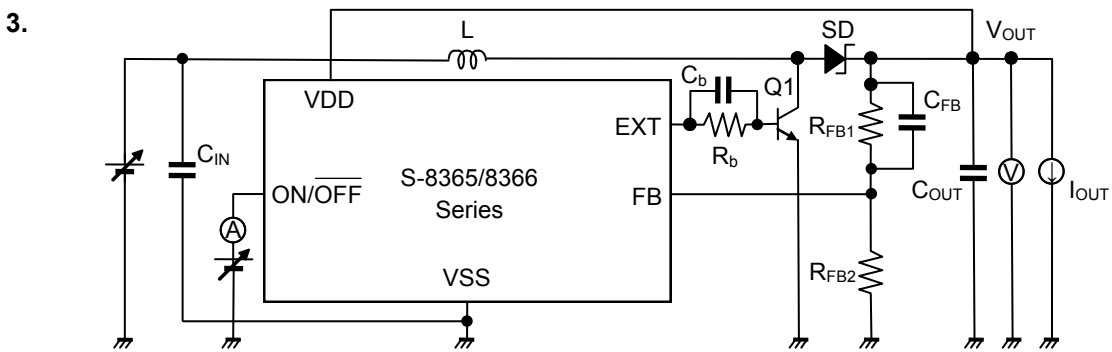

Figure 10
*2. This is the guaranteed value measured with external parts shown in “**Table 10 External Parts List**” and with test circuits shown in **Figure 10**. The operating start voltage varies largely depending on diode’s forward voltage. Evaluate sufficiently with actual device.
*2. This is the guaranteed value measured with external parts shown in “Table 10 External Parts List” and with test circuits shown in Figure 10. The operating start voltage varies largely depending on diode’s forward voltage. Evaluate sufficiently with actual device.